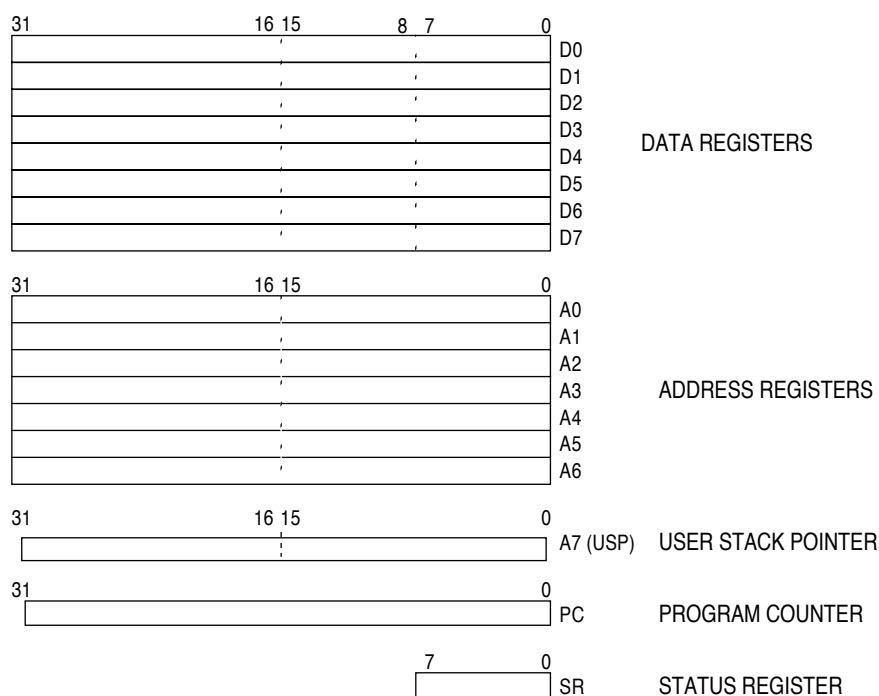

Figure 1-2. User Programming Model
The core has 32-bit registers and a 32-bit program counter, which are shown in Figure 1-2. The first eight registers (D7–D0) are data registers that are used for byte (8-bit), word (16-bit), and long-word (32-bit) operations. When using the data registers to manipulate data, they affect the status register (SR). The next seven registers (A6–A0) and the user